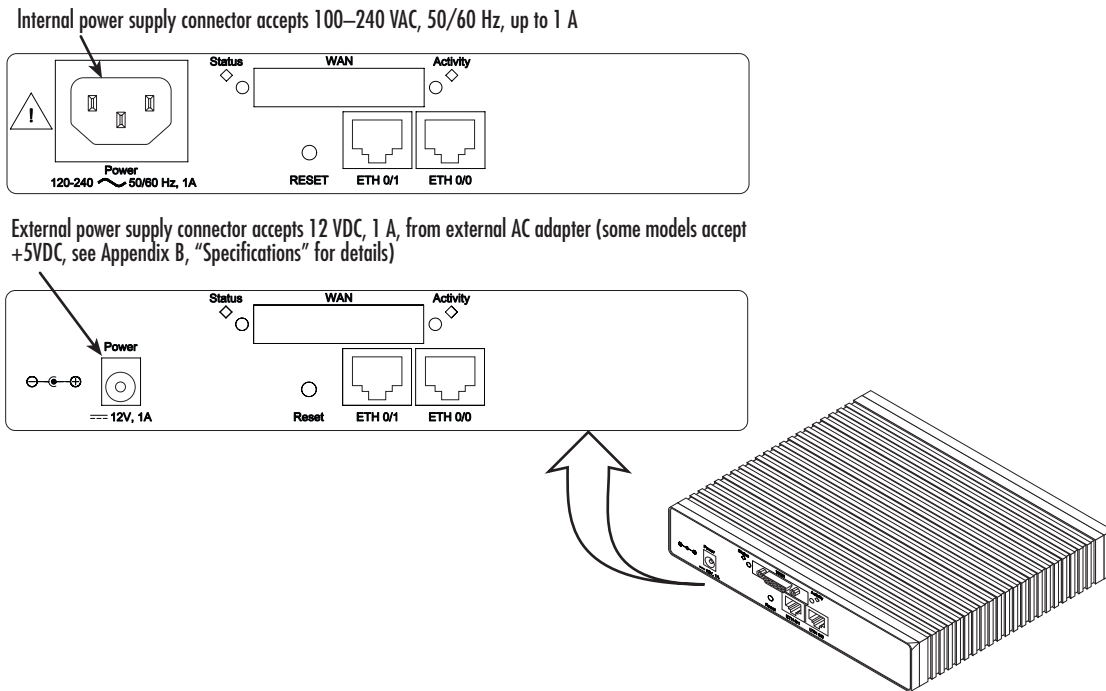

Figure 4. OnSite 2800 Series power input connectors
- *UI* stands for internal 100–240V AC universal input power supply (see figure 4)
- *EUI* stands for external 100–240V AC universal input power supply (see figure 4)